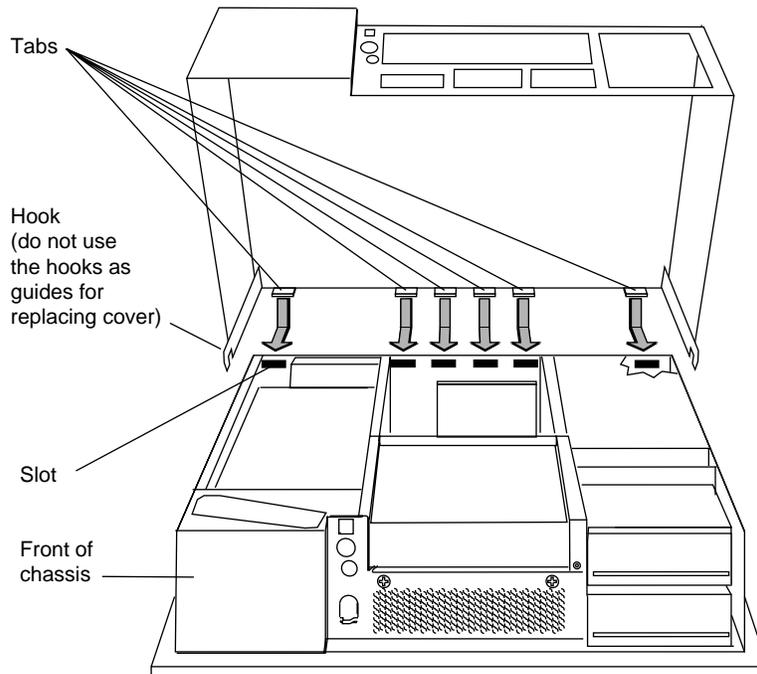

Figure 1-34 Replacing the Cover
1. Locate the tabs on the inside and back of the top cover and the slots on the back of the workstation. See Figure 1-34.
3. Insert the locator tabs into the holes. Rotate the cover forward and push it down until it snaps into place. See Figure 1-34. The cover fits tightly over the workstation.